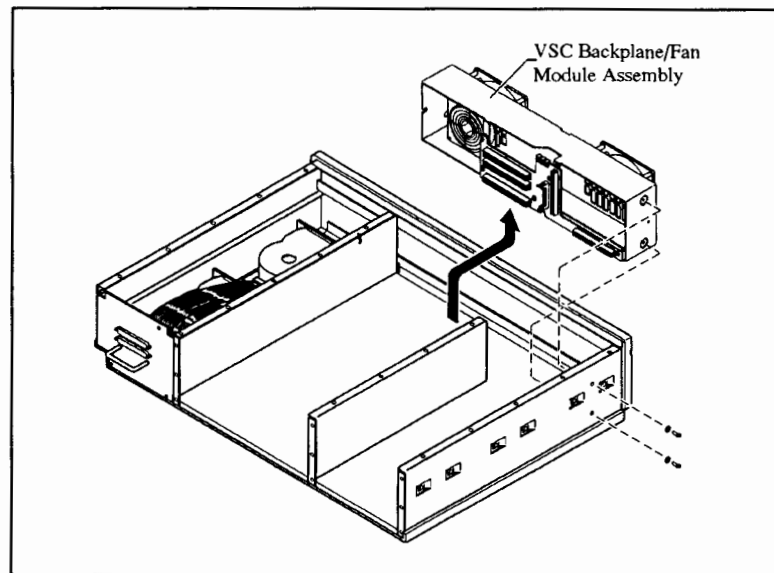

Figure 5-12. VSC Backplane/Fan Module Removal
- 5). Disconnect the ribbon cable on the Switch card going to the VSC Backplane assembly as shown in Figure 5-12.
- 6). Use a Pozidrive screwdriver to remove the 2 screws holding the VSC backplane/fan module to the System Unit cabinet as shown in Figure 5-12.
5). Disconnect the ribbon cables on the VSC Backplane assembly going to the Switch card and SCSI device tray assembly as shown in Figure 5-12.